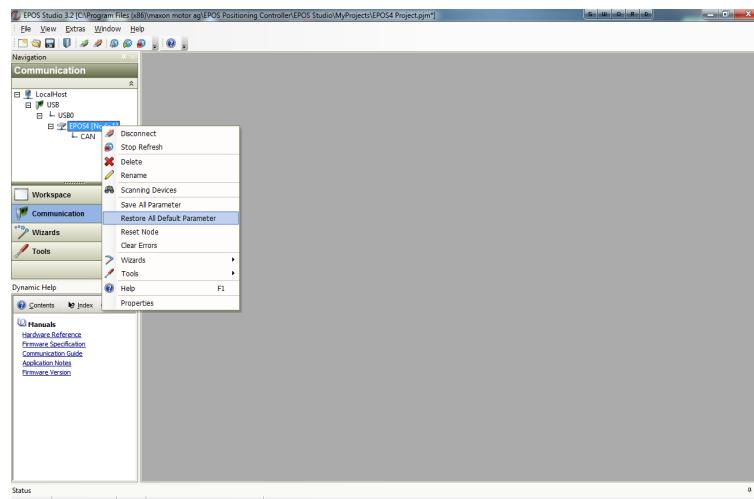

Figure 8-124 Adjustment of SSI commutation offset value | Restore all default parameters
- 6) If you are not quite sure what parameters are set, execute the command «**Restore all default parameters**» (➔Figure 8-124) before continuing.